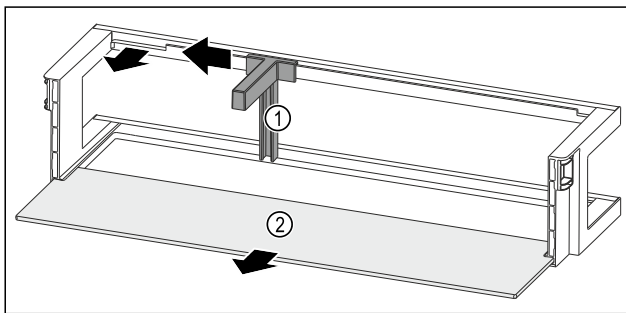

Fig. 91 Door rack with bottle holder and shelf
- Slide the bottle holder Fig. 91 (1) to the side as far as the recess.
- Remove the bottle holder Fig. 91 (1).
- Remove the shelf Fig. 91 (2).